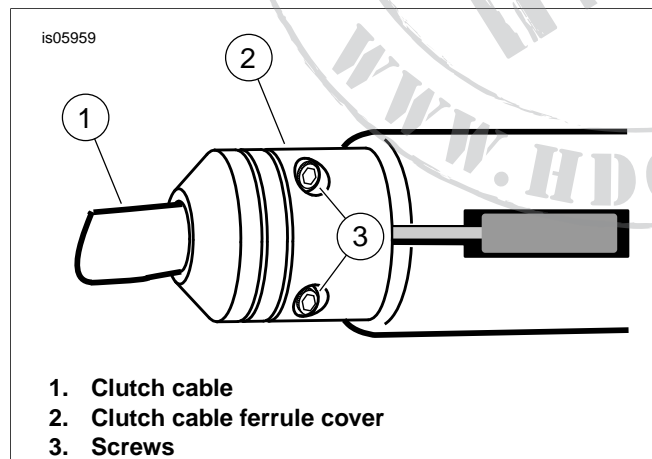

Figure 1. Chrome Clutch Ferrule Installed
2. See Figure 1. Place cover halves over ferrule and reassemble. If cover does not fit the ferrule tightly, remove cover and install the two pieces of loose tape (included in the kit) onto the inner surface of each cover half. If the cover continues to not fit tightly wrap black electrical tape around ferrule until a secure fit is achieved. Replace cover and tighten allen screws.